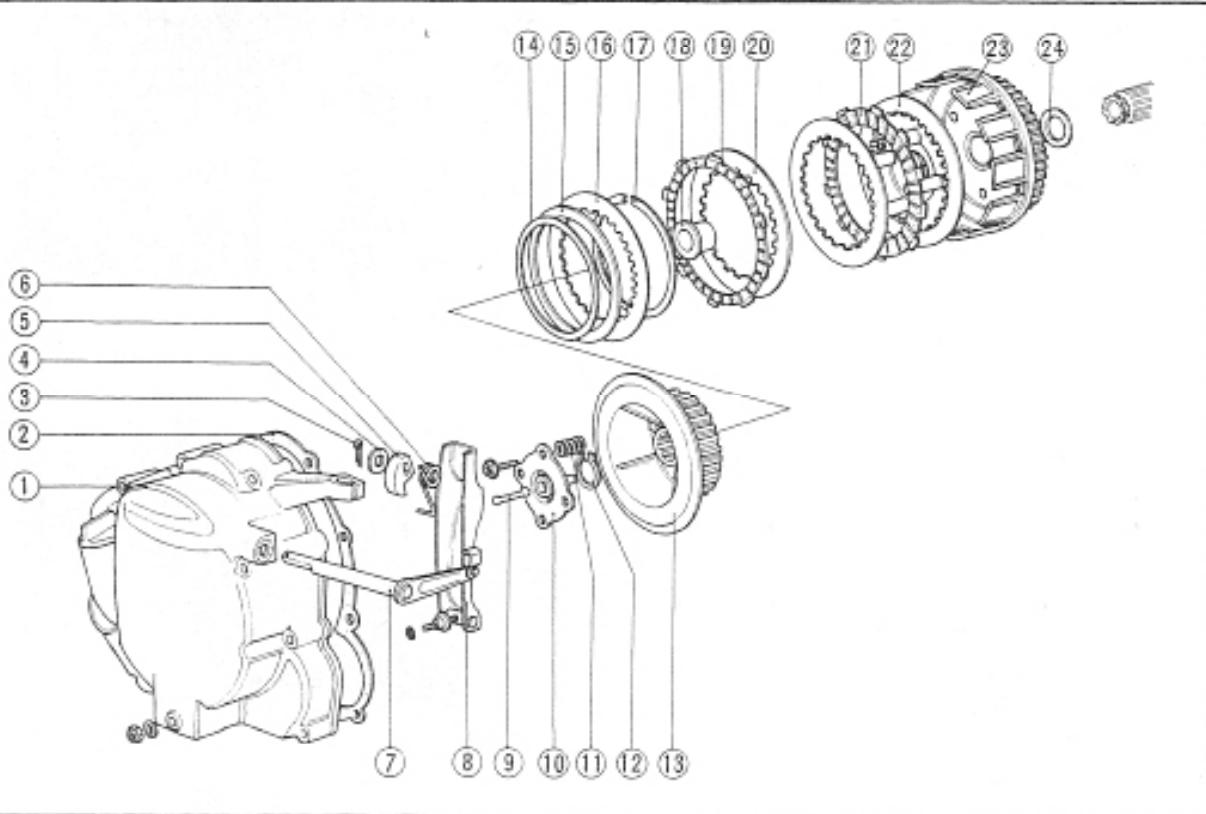

Fig. 3-30
② Clutch disc spring
3. Alternately install the friction discs and clutch plates to the clutch outer, and finally install the 8mm friction disc (see ⑧, Fig. 3-30).